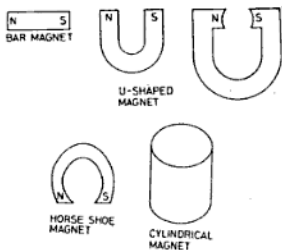

Fig. 6.2 Types of artificial magnet
**Permanent Magnet** Permanent magnets are made of steel and retain magnetism (i.e., the property of attracting iron) for a long time. They are generally made as bar magnets, horse-shoe magnets, U-shaped magnets and cylindrical magnets, as shown in Fig. 6.2. The material used for making permanent magnets is either cobalt, steel or tungsten steel.